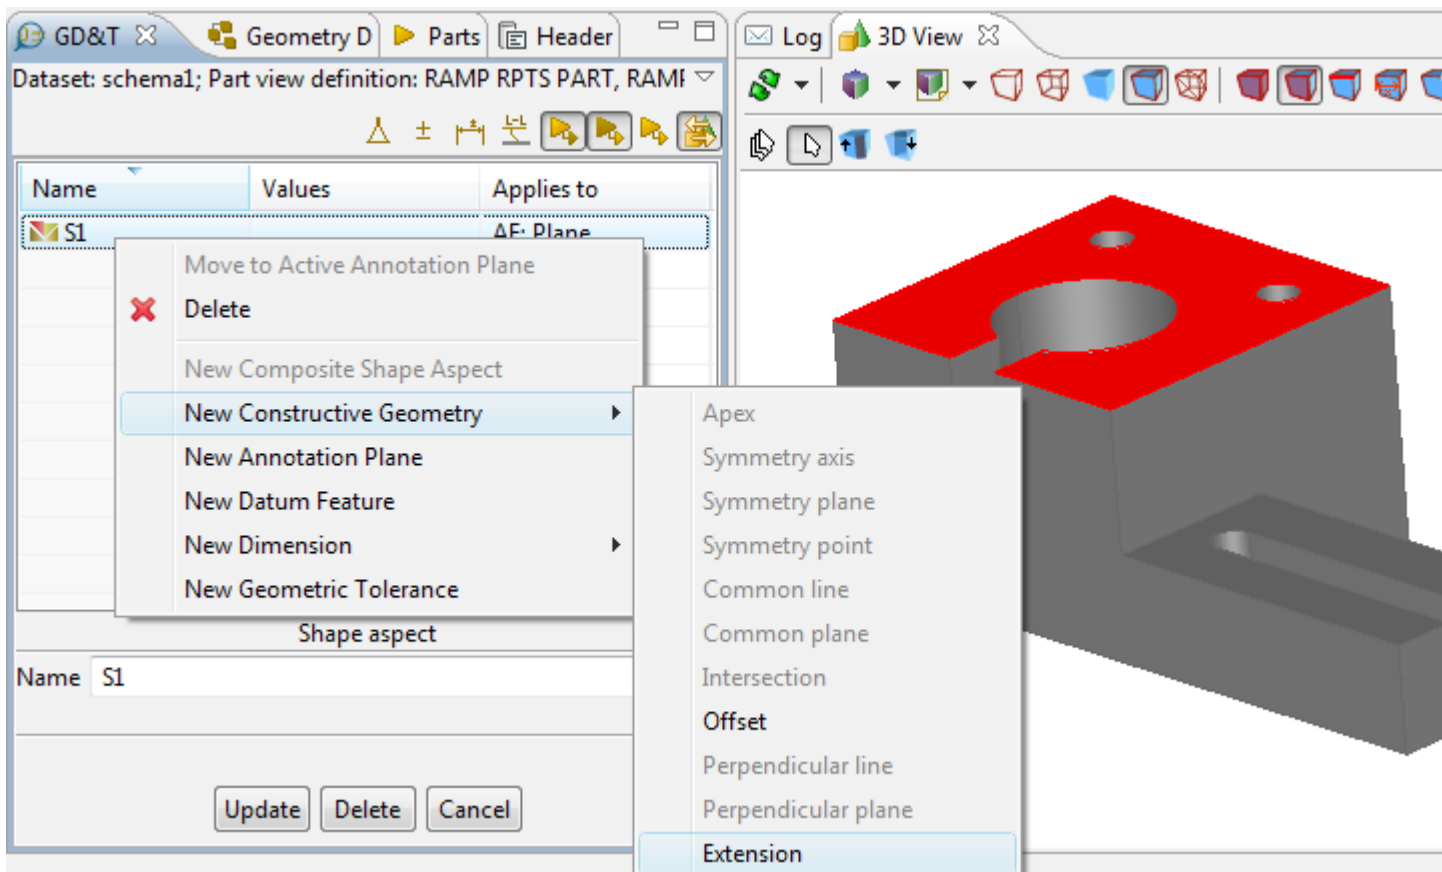

Figure 1. Selected items: plane, menu item to create extension in GD&T view and surface in 3D View
- Right click and select **Create Constructive Geometry -> Extension** item in the appeared context sensitive menu (see Figure 1).